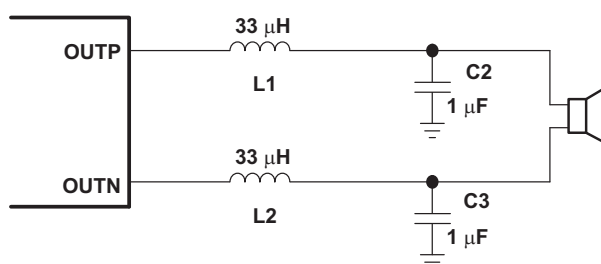
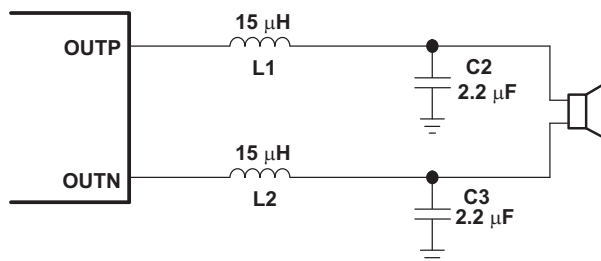
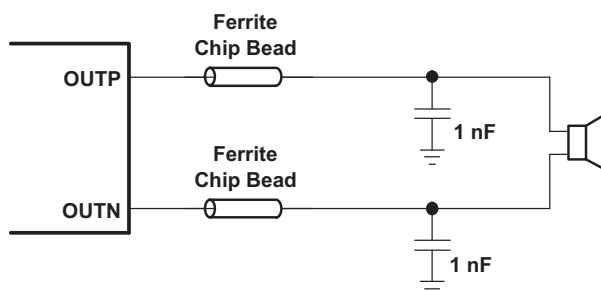
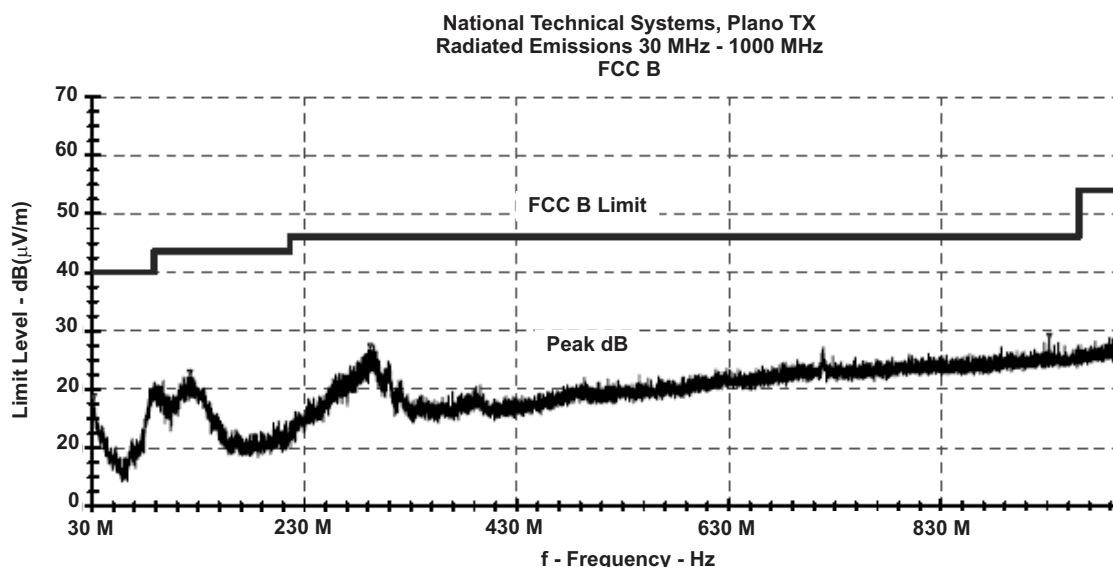

Figure 25. Typical LC Output Filter, Cutoff Frequency of 28 kHz, Speaker Impedance = 8 Ω
Figure 26. Typical LC Output Filter, Cutoff Frequency of 28 kHz, Speaker Impedance = 4 Ω
Figure 27. Typical Ferrite Chip Bead Filter (Chip Bead Example: Fair-Rite 2512067007Y3)
Figure 28. Radiated Emissions Prescan 30 MHz to 1000 MHz
Using the LC filter in Figure 25, the TPA3100D2 EMI EVM passed the FCC Part 15 Class B radiated emissions with 21-inch speaker wires. Quasi-peak measurements were taken for the four standard test configurations, and the TPA3100D2 EVM passed with at least 17-dB margin. A plot of the peak measurement for the horizontal rear configuration is shown in Figure 28.
- Output filter—The ferrite EMI filter (Figure 27) should be placed as close to the output terminals as possible for the best EMI performance. The LC filter (Figure 25 and Figure 26) should be placed close to the outputs. The capacitors used in both the ferrite and LC filters should be grounded to power ground. If both filters are used, the LC filter should be placed first, following the outputs.